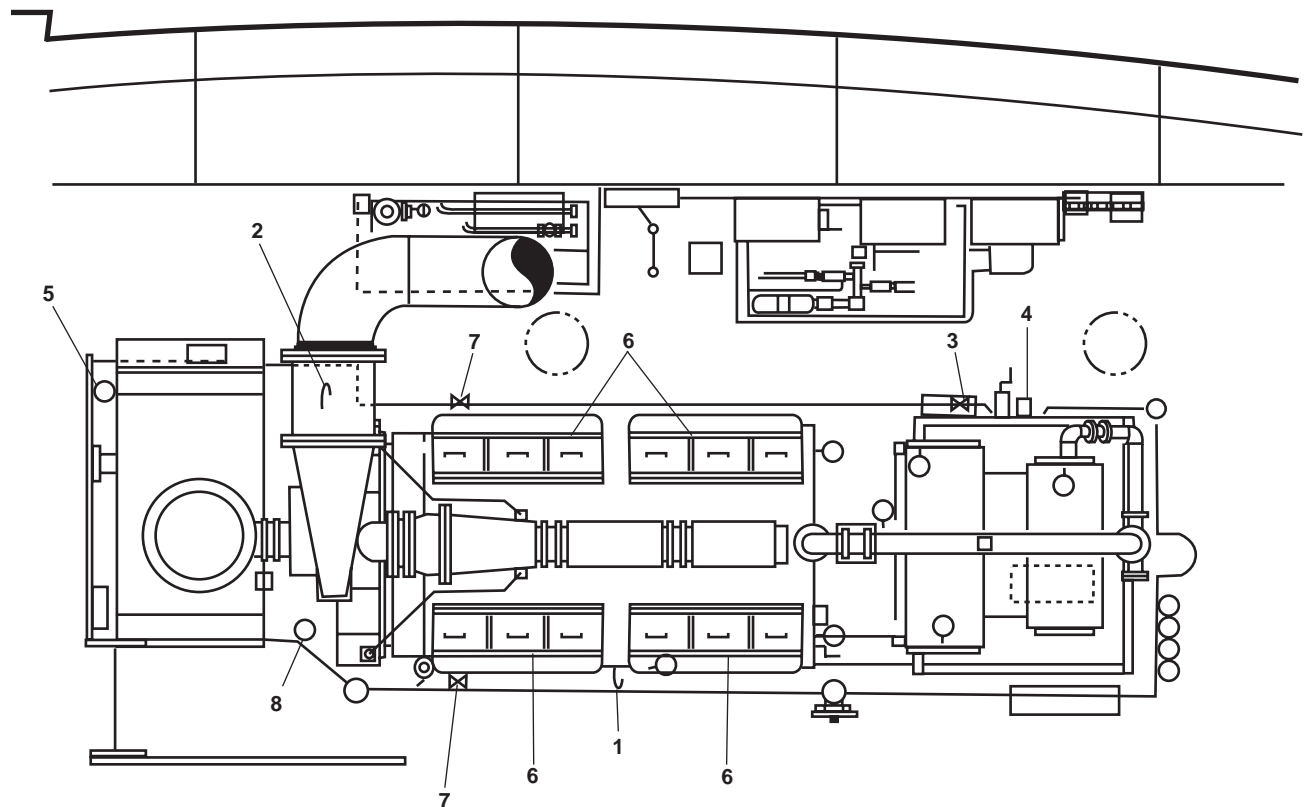
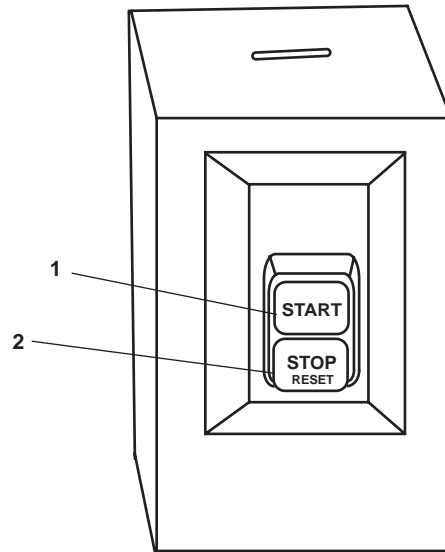

Figure 13. Port Main Engine and Reduction Gear
Figure 14. Port Main Engine Prelube Pump Motor Controller
3. Check that the port main engine oil is at the normal level on the dipstick (figure 13, item 1). If the engine oil level is low, add oil until the proper level is achieved. Refer to TM 55-1925-208-24 or the maintenance supervisor for the oil specification.
4. Check that the port reduction gear oil is at the normal level on the dipstick (figure 13, item 2). If the reduction gear oil is level low, add oil until the proper level is achieved. Refer to TM 55-1925-223-24&P or the maintenance supervisor for the oil specification.
6. OPEN valve LO-47, C.O.V. PRELUBE PMP. DISCH. (figure 13, item 3).
7. At the prelube pump motor controller (figure 13, item 4), PUSH the START pushbutton (figure 14, item 1).
19. Ensure that the shaft brake pressure gauge (figure 13, item 5) indicates 1200 to 1500 PSI (82.7-103.4 bar).
20. Open the engine top deck covers (figure 13, item 6) and check that the valve train is receiving adequate flow from the prelube pump. If the flow is adequate, close the engine top deck covers. If the flow is inadequate, notify unit maintenance.
- d. Check the port main engine test valves (figure 10, item 1) and air box blow down valves (figure 13, item 7) for the presence of oil and/or water. If no oil or water are detected, continue with this procedure. If oil or water are detected, notify the maintenance supervisor.
- a. Port reduction gear bearing oil pressure (figure 13, item 8) rises to approximately 32 PSI (2.2 bar) as soon as the engine starts.